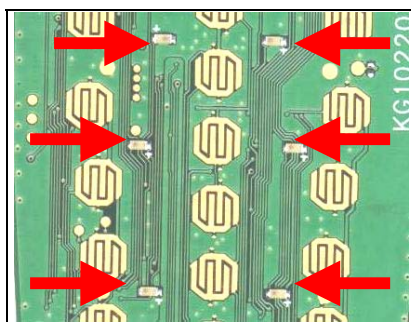

Fig. 6.1
- Check the LED (Fig. 6.1) if it's incorrectly soldered or damaged. Replace LED if necessary.